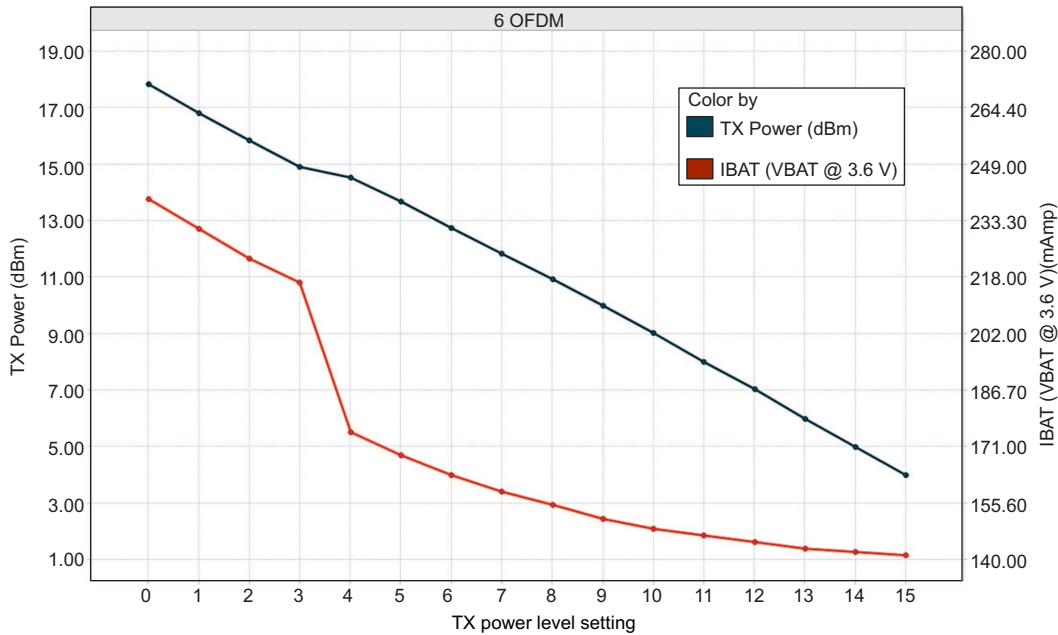
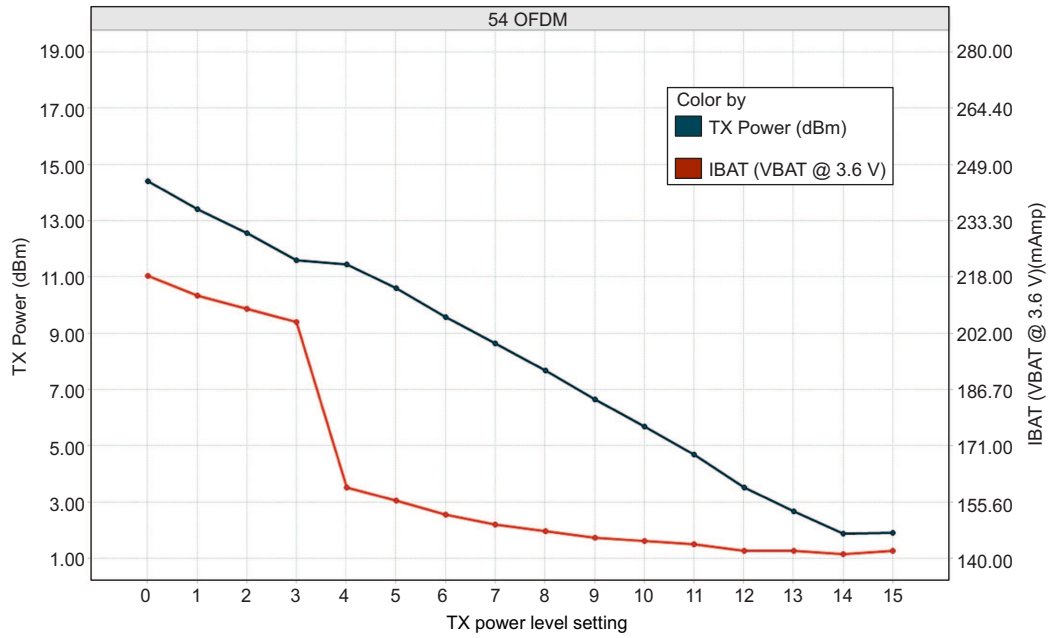

Figure 4-2. TX Power and IBAT vs TX Power Level Settings (6 OFDM)
Figure 4-3. TX Power and IBAT vs TX Power Level Settings (54 OFDM)
- (1) TX power level = 0 implies maximum power (see Figure 4-1, Figure 4-2, and Figure 4-3). TX power level = 4 implies output power backed off approximately 4 dB.
- (2) The CC3120R system is a constant power-source system. The active current numbers scale based on the V_{BAT} voltage supplied.
- (3) The RX current is measured with a 1-Mbps throughput rate.
- (4) DTIM = 1
- (5) For the 1.85-V mode, the hibernate current is higher by 50 μA across all operating modes because of leakage into the PA and analog power inputs.
- (6) The complete calibration can take up to 17 mJ of energy from the battery over a time of 24 ms. In default mode, calibration is performed sparingly, and typically occurs when re-enabling the NWP and when the temperature has changed by more than 20°C. There are two additional calibration modes that may be used to reduced or completely eliminate the calibration event. For further details, see CC3120, CC3220 SimpleLink™ Wi-Fi® and IoT Network Processor Programmer's Guide.